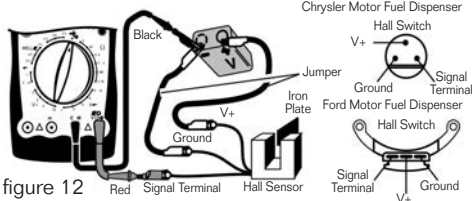

figure 12
- (2) Set the rotary switch of the meter to the 200 k Ω . As prompted at the LCD connect terminal, insert the red test lead into the Ω terminal and the black one into the COM terminal.
3. Hall Switch/Sensor Testing (see figure 12)